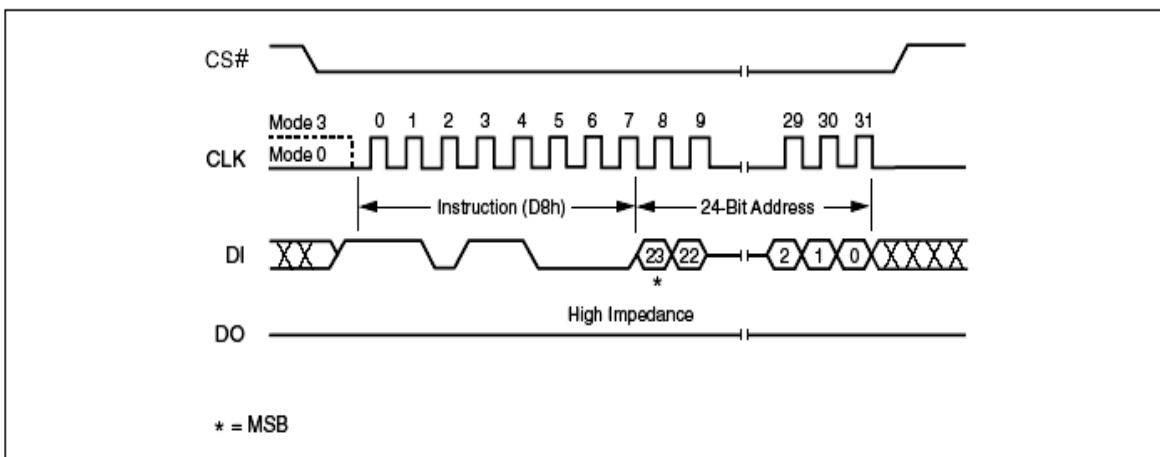

Figure 30. 64K Block Erase Instruction Sequence Diagram
The instruction sequence is shown in Figure 30. Chip Select (CS#) must be driven High after the eighth bit of the last address byte has been latched in, otherwise the Block Erase (BE) instruction is not executed. As soon as Chip Select (CS#) is driven High, the self-timed Block Erase cycle (whose duration is t_{BE}) is initiated.
When used only to obtain the Device ID while not in the power-down state, the instruction is initiated by driving the CS# pin low and shifting the instruction code “ABh” followed by 3-dummy bytes. The Device ID bits are then shifted out on the falling edge of CLK with most significant bit (MSB) first as shown in Figure 30. The Device ID value for the device are listed in Table 6. The Device ID can be read continuously. The instruction is completed by driving CS# high.